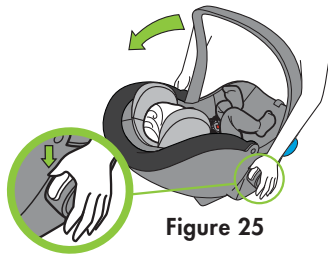

Figure 25
- Press both Carry Handle Adjustment Buttons and rotate Handle until it locks in the desired position as shown in **Figure 25**.